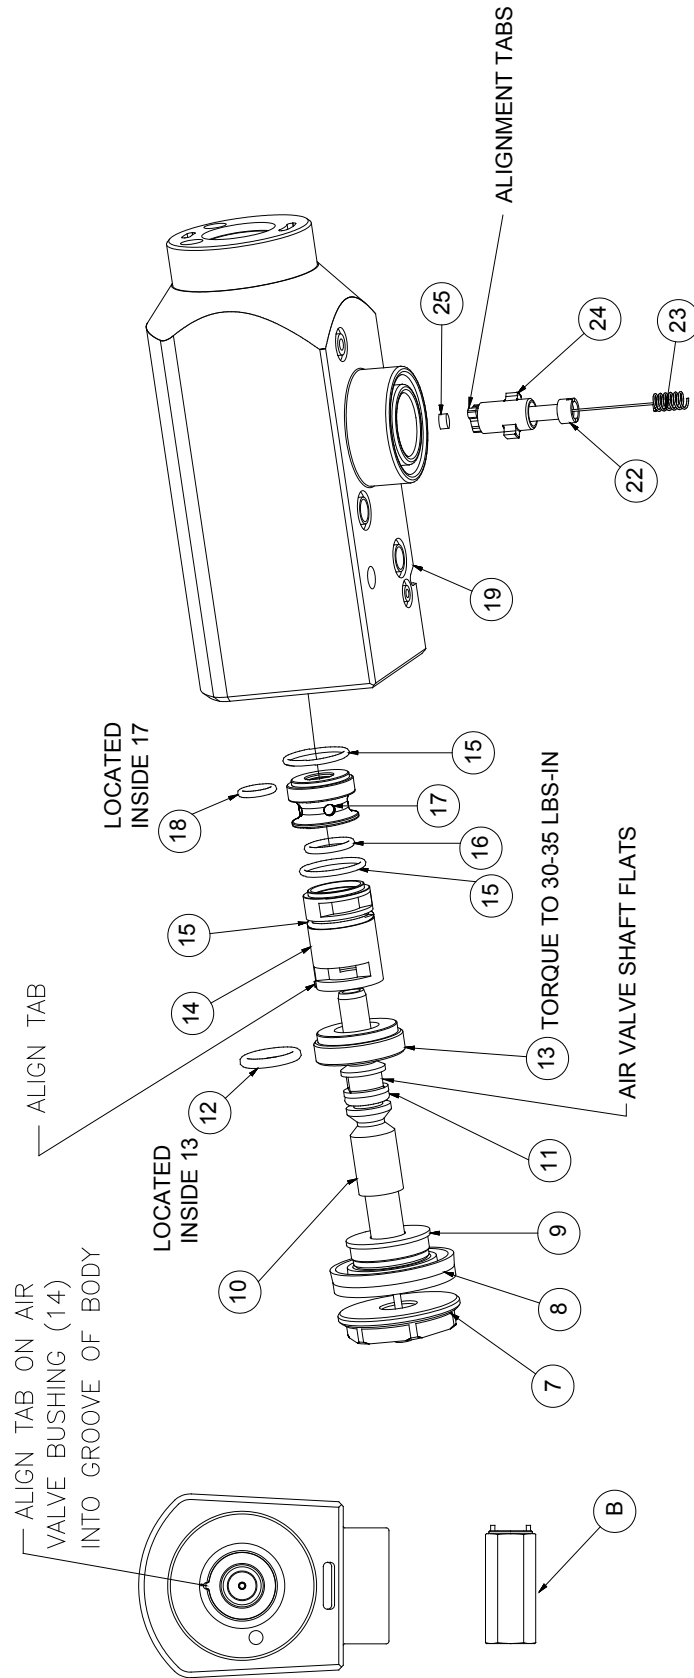

Figure 9: 79138 Evolver Gun Head Assembly
(See Figure 9)
their mating parts (see Figure 9).
8. Reassemble the remaining parts, as shown in Figure 9, making sure that the alignment tab on the bushing [14] lines up with the align groove in the body [19].
79138 EVOLVER GUN HEAD ASSEMBLY - PARTS LIST (Figure 9)